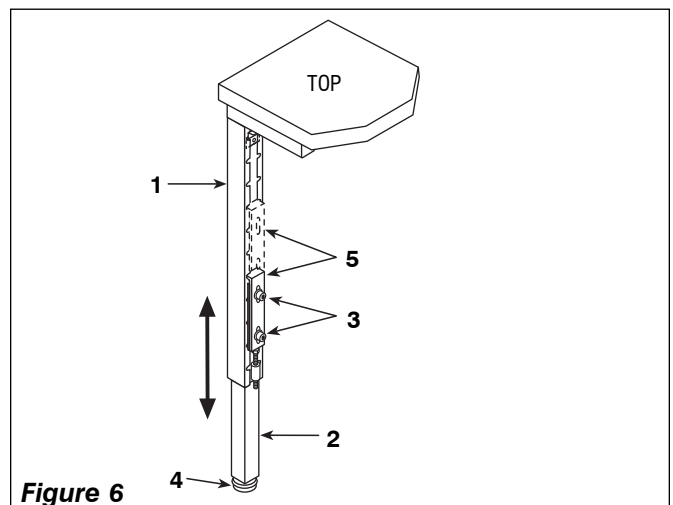

Figure 6
(Refer to Fig. 6)
2. With the proper allen head wrench, loosen the two socket head cap screws (3) until the top flange of the course adjustment bracket (5) can be disengaged from the slots in the upper leg assembly (1). (Fig. 6)
7. Final leveling can be done by placing a level on the table top and adjusting the 4 lower leg levelers or casters. (Fig. 6)